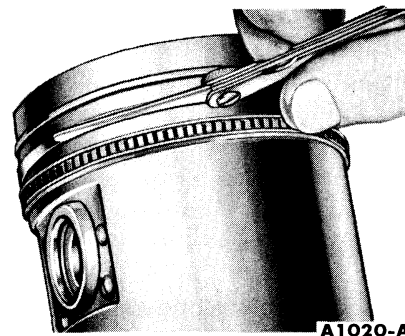

FIG. 44—Ring Side Clearance
6. Check the ring side clearance of the compression rings with a feeler gauge inserted between the ring and its lower land (Fig. 44). The gauge should slide freely around the entire ring circumference without binding. Any wear that occurs will form a step at the inner portion of the lower land. If the lower lands have high steps, the piston should be replaced.